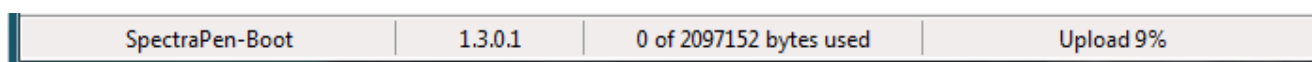

Fig. 40 Firmware update running.
- The bottom bar indicates the upload progress (Fig. 40)